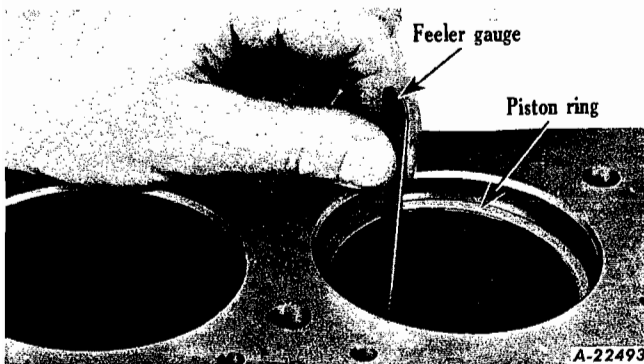

Fig. 58 - Checking ring gap.
- Place piston and connecting rod in vise. Test each piston ring for proper gap by placing in cylinder and measuring gap with feeler gauge. Gap should be .016" to .026" (Fig. 58).